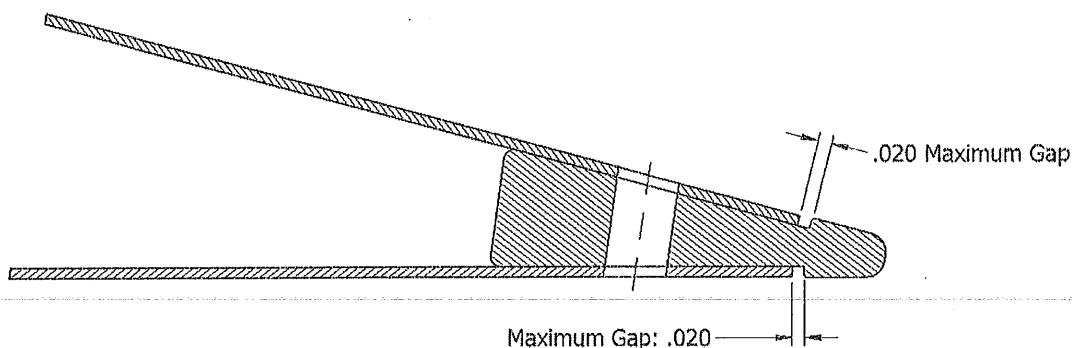

Figure 5. Maximum Gap between edge of skins and stiffener.
9. Examine the stiffener for the presence of a gap between the edges of the skins and stiffener as shown in Figure 5.
- c. Maximum gap allowed between either skin trailing edge and the stiffener is .020 inches as seen in Figure 5.